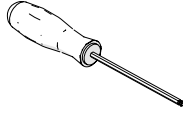

Fig. 39 - 2.5 mm hex driver
- ▶ 2.5 mm hex driver (Fig. 39).